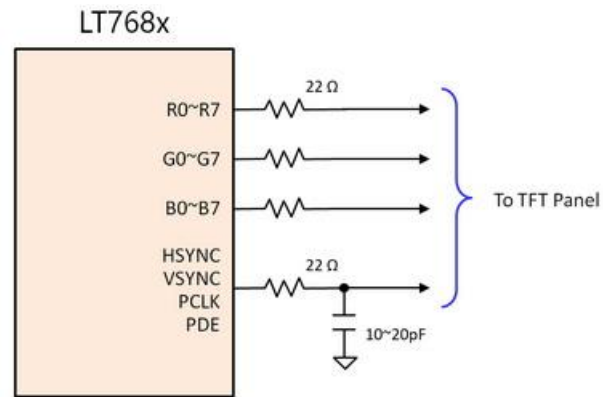

Figure 12: RGB output adding series resistor and GND capacitor
- Add series resistor and GND capacitor on PCLK, PDE, HSYNC, VHYNC. (Figure 12).